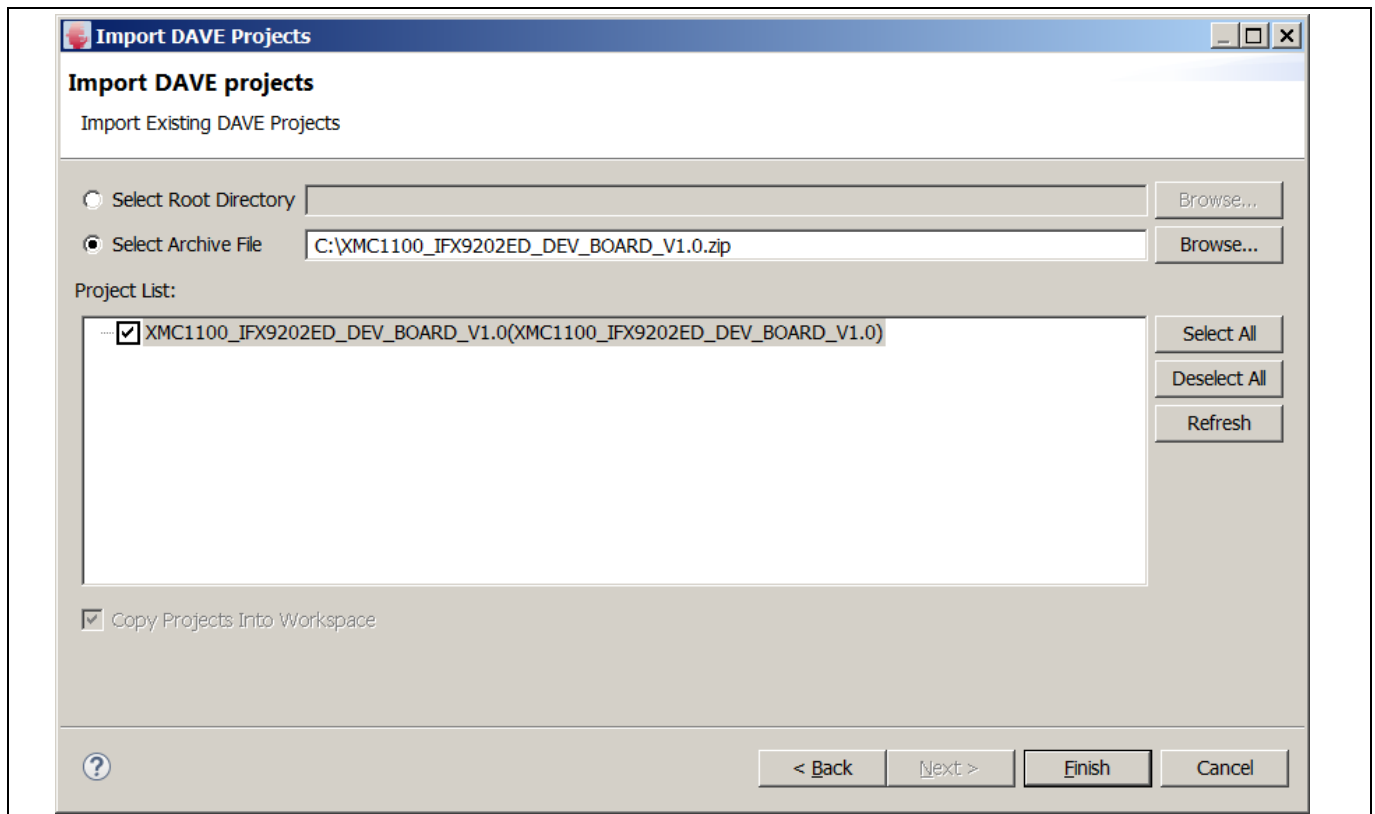

Figure 5 Import project (2)
Step 2: Select the folder with the extracted demo project and click on “Finish”. Keep “Copy Projects Into Workspace” checked (see Figure 5).